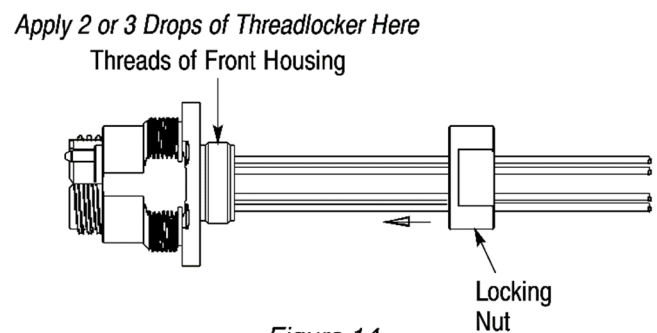

Figure 14
2. Align the guide pins with the guide holes, and fit the EB insert assembly fixture onto the EB insert assembly. Refer to Figure 14, Detail A.
3. Using an applicator swab, apply a *thin film* of the grease around the O-ring of the EB insert, around the inside of the front seal located inside the front housing, and around the inside of the internal O-ring of the D-hole housing. Remove any excess grease. Refer to Figure 14, Detail A.
4. Align the small diameter end of the D-hole housing with the back (end opposite the front seal) of the front housing so that the desired rotational orientation is established (use the flat on the D-hole housing as the reference point). Refer to Figure 14, Detail B. Then slide the D-hole housing onto the front housing until a distinct bottoming of the D-hole housing is felt.
There are 4 rotational orientations for mounting the connector to the panel: top, bottom, left, or right. Aligning one of the keyways located inside the D-hole housing with one of the external keys of the front housing will establish the rotational orientation (one keyway is parallel to the flat). Refer to Figure 14, Detail B.
5. Align the keyway (slot along the outside) of the EB insert with the internal key (small bar inside) of the front housing (refer to Figure 14, Detail C), and using the 2.5-mm hex wrench, push the EB insert into the front housing until the front edge of the EB insert is flush with the outer edge of the front seal (of the front housing). See Figure 14, Detail D. To avoid damage to the fibers, **DO NOT** push on the cables to install the EB insert.
6. Slide the compression sleeve over the cables, over the crimp ring, and into the front housing. See Figure 14, Detail D.
7. Apply 2 or 3 drops of the threadlocker to the threads of the front housing. Slide the locking nut over the cables and onto the front housing. Fingertighten the locking nut. See Figure 14, Detail E. Using the 20-mm open-end wrench, tighten the locking nut to a torque between 10 and 12 N·m.